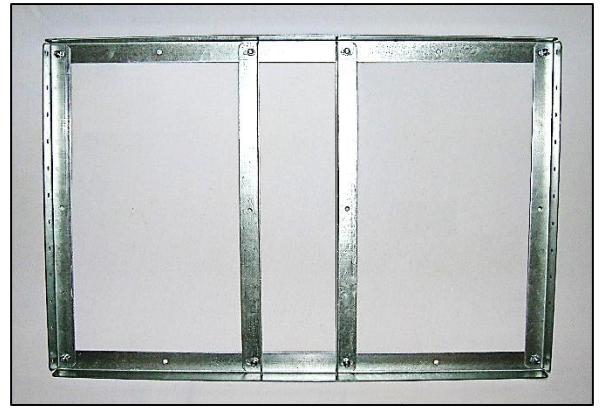

Figure 1 – antenna mount frame assembly
3.1: Assemble Antenna Mount Frame. Attach the frame members using 5/16" x 3/4" carriage bolts (refer to Figure 1). Push a carriage bolt through the pre-drilled holes in the frame members. Place a lock nut on the threaded end and use a 1/2" wrench or ratchet with 1/2" socket to tighten.
- The 37 3/4" angled steel frames form the horizontal top and bottom of the antenna mount frame (refer to Figure 1).
- The 24 1/2" angled steel frames form the vertical sides and middle of the antenna mount frame (refer to Figure 1).